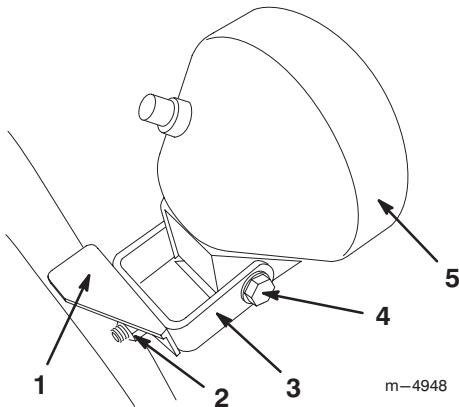

Figure 24
- Loosen the two nuts on the U-bolt that hold the headlight bracket to the handle (Fig. 24).